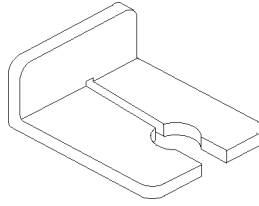

Figure 5-10. Coupler Spring
Figure 5-10 shows an exploded view of the Miniframe Master and Extender.
18. Refer to Figures 5-10, 5-11 and 5-12. To safely attach the Master to the Extender,